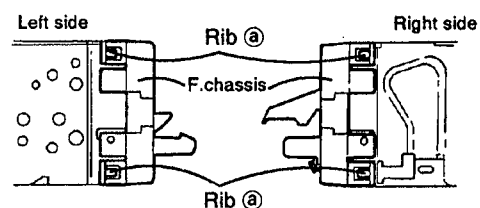

Fig. 2-3
■ Front chassis assembly (See Fig.2-3,2-4)
2. Remove the four ribs ① securing the front chassis assembly to the chassis.
3. Remove the two screws ② securing the front chassis assembly.